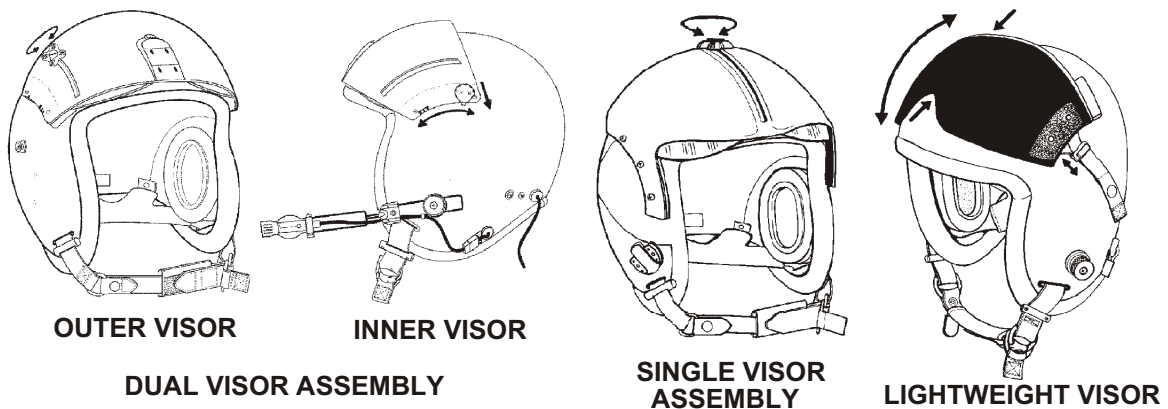

Figure 2-5. Visor Operation
11. To check visor operation, raise and lower the visor or visors as follows (Figure 2-5):